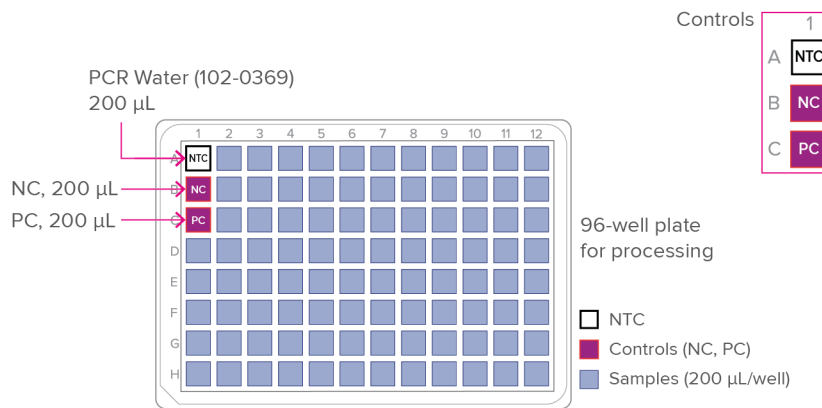

Figure 1. Control mixes and samples in the processing plate
- 1** Use the RNAdvance Viral Reagent Kit (Beckman Coulter, C63510) to extract RNA from each sample and control according to the manufacturer's recommendations. Aliquot the samples and controls (NC, PC) and pipet PCR Water (NTC, 102-0369) as shown in Figure 1 on page 16.